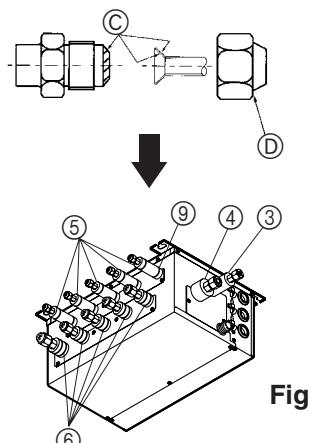

Fig. 7-2
④ Apply refrigeration oil to the entire (Fig. 7-2) surface of the flared seat.
⑤ Basically use flared nuts fitted to the body (commercially available flared nuts may crack).